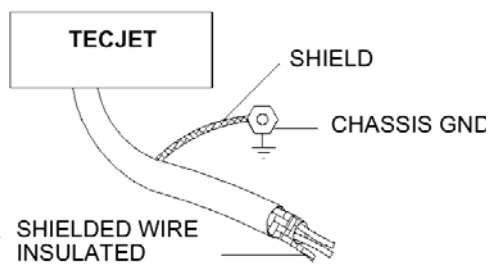

Figure 2-2. Shielded Wiring Connection
- Connect the shield to the nearest chassis ground, leaving the opposite end of the shield open. Ensure that the shield is properly insulated (see Figure 2-2).